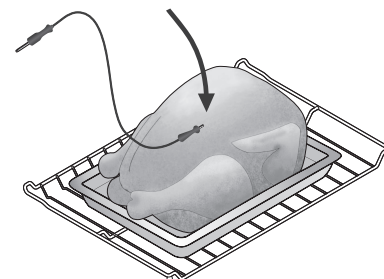

Figure 25: Probe in thickest part breast
- For whole poultry or turkey, fully insert the probe sensor into the thickest part of the breast (See Figure 25).